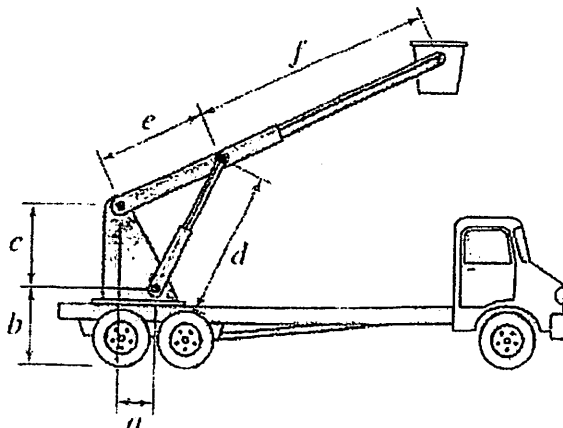

Figure 2
- (a) In Figure 2 bellow a truck lift mechanism used in the street light maintenance and other construction industries is shown, if  $a = 24\text{in}$ ;  $b = 36\text{in}$ ;  $c = 30\text{in}$ ;  $d = 50$ ;  $e = 6\text{ft}$  and  $f = 10\text{ft}$ , determine the vertical height of the basket which carries the maintenance personnel. State your answer in millimeter (mm)